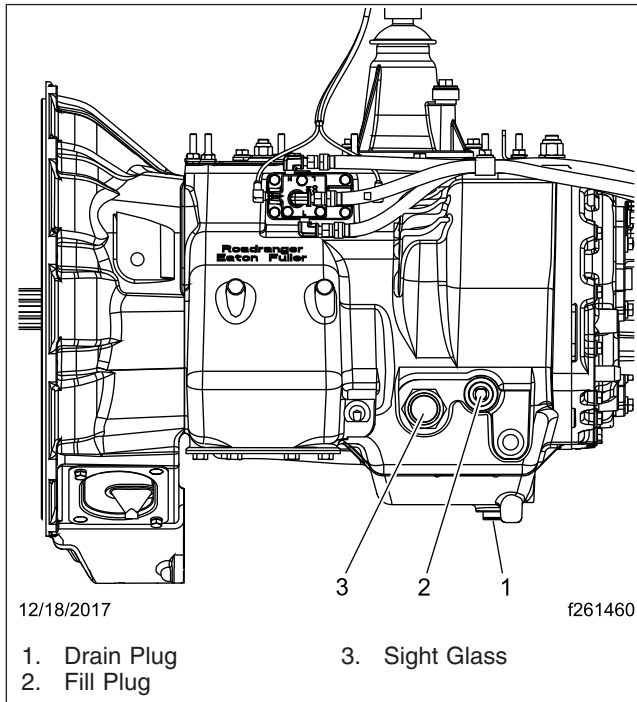

Fig. 3, Eaton Fuller Transmission With a Sight Glass
- Clean the oil level sight glass. See Fig. 3.